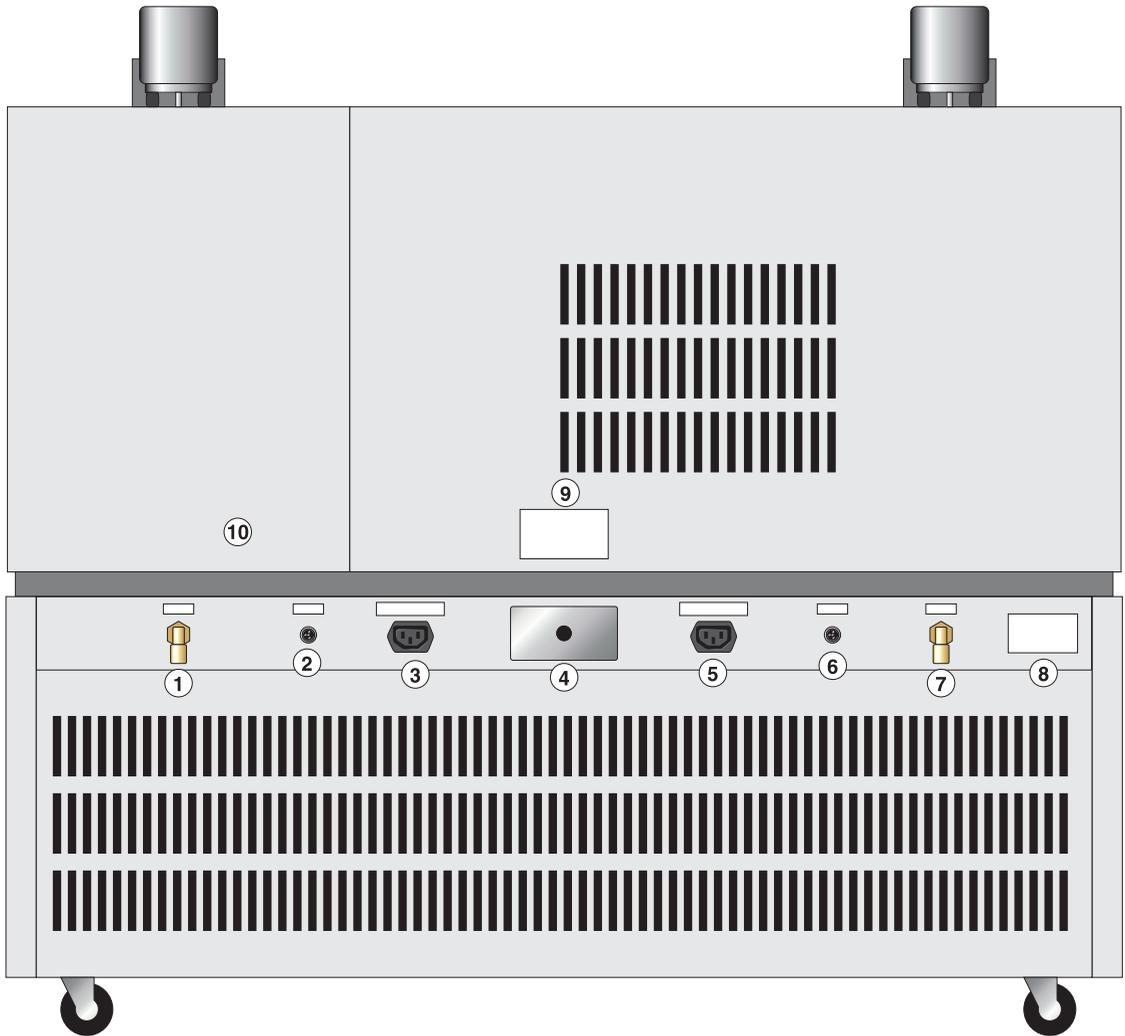

Figure 7. Back panel.
WARNING: Be sure the drain is securely capped before filling (see Figure 7).
Each probe should be plugged into its connector on the rear of the corresponding bath. It is then inserted fully into the hole located near the pump motor on the pump lid assembly. (See Figures 7 and 8.)
The following features are located on the back panel of the Model 7013 (see Figure 7). Items 1-3 relate to the cold bath, while items 5-7 relate to the hot bath.
- (1) The **Drain** provides an easy way to drain the cold bath tank when either changing fluids or cleaning. To drain the tank, remove the drain cap by turning it counterclockwise. When draining is finished be sure to replace the drain cap, fitting it snugly to insure that the seal is leak-proof.
- (2) The **Probe Connector** is used to connect the cold bath control probe to the temperature controller.
- (3) The **Pump Power Receptacle** is for the cold bath pump. Its power is turned on with the main power switch. The pump requires 230 VAC.